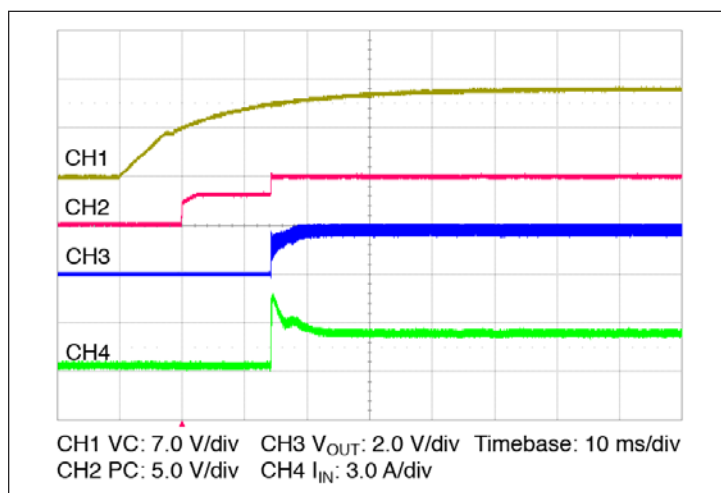

Figure 11 — Start up from application of VC;
- Stand-alone operation (VC applied after V_{IN}): In this case the VTM output will begin to rise upon the application of the VC voltage (See Figure 11). The Adaptive Soft Start Circuit (See Section 11) may vary the output rate of rise in order to limit the inrush current to its maximum level. When starting into high capacitance, or a short, the output current will be limited for a maximum of 120 µsec. After this period, the Adaptive Soft Start Circuit will time out and the VTM module may shut down. No restart will be attempted until VC is re-applied or PC is toggled. The maximum output capacitance is limited to 27000 µF in this mode of operation to ensure a successful start.